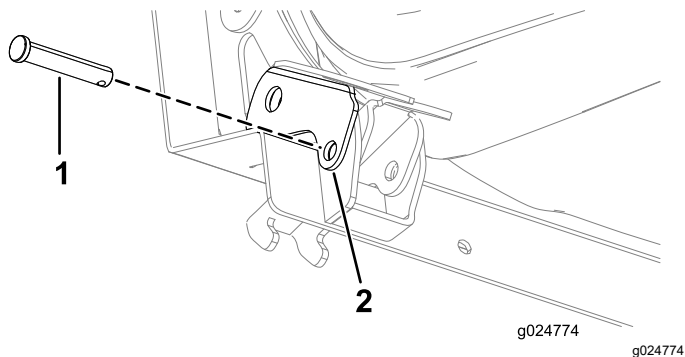

Figure 23
- 6. Partially move the clevis pin inward through the hole in the seat latch (Figure 23).